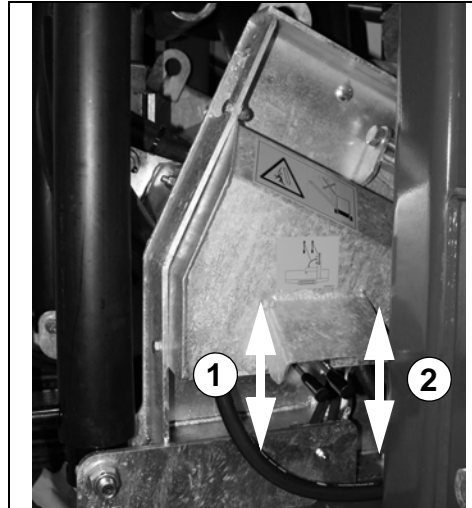

Figure 5.13
2. Open the mechanical locking from above the lifting cylinders. Lift the weight off from the locking with the hydraulic cylinder (Figure 5.13). Turn the transportation support to the side and lock it open.
3. Raise the conveyor with RAISE control lever so that the lifting cylinder has extended approx. 100mm (Figure 5.13).